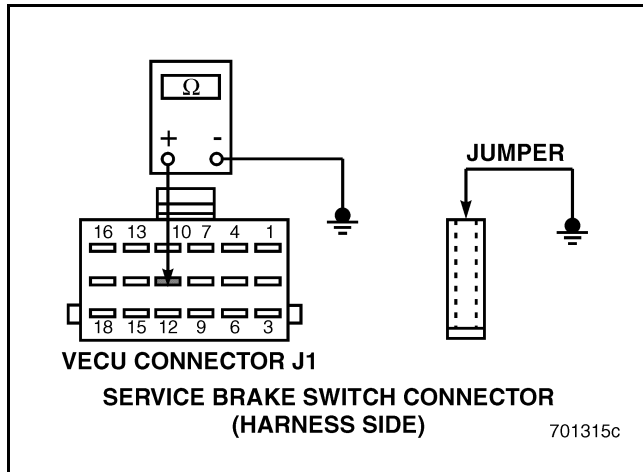

Figure 685
5. Check for continuity between VECU connector J1 pin 11 and a good ground (see Figure 685).